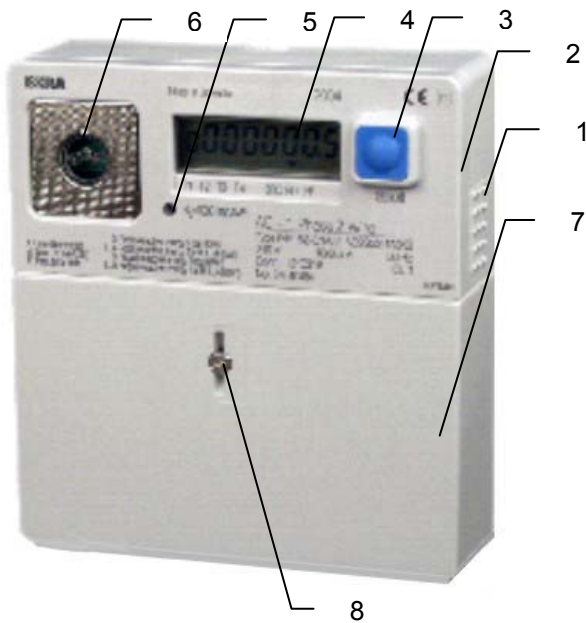

Fig. 1: Meter parts
The RTC accuracy can be tested via the imp/kWh LED (Fig. 1, item 5) when the meter is in the RTC test mode. The meter is set in the RTC test mode via the optical port by means of the Iskraemeco Meter-View software so that a command Clock control is sent to the meter. When the meter is in the RTC test mode, the RTC 4096 Hz test frequency is fed to the imp/kWh LED. The meter will stay in the RTC test mode approximately 18 hours. Then it will return back into the meter mode automatically. Other ways to exit from the RTC test mode are: